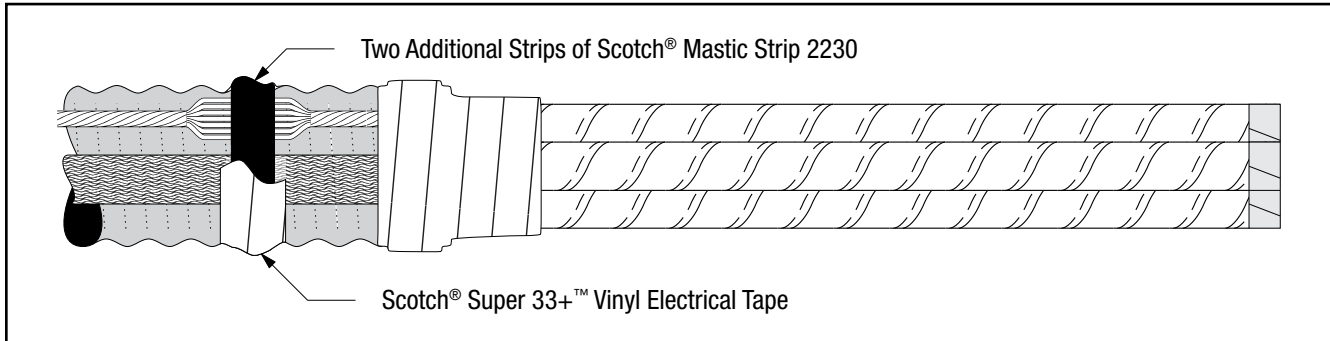

Figure 10
- 3.10 Wrap two additional strips of Scotch® Mastic Strip 2230 directly over previously applied Scotch® Mastic Strip 2230. (*Figure 10*).